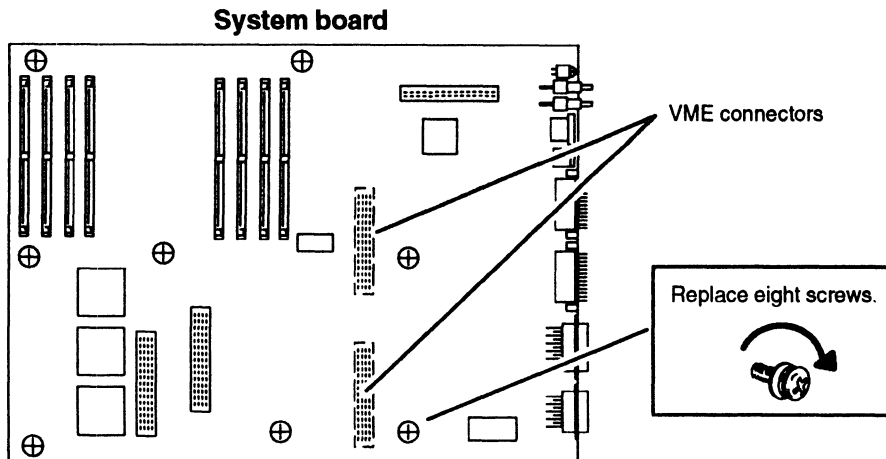

Figure 9-12 Securing the System Board to the Computer Unit
6. Press the system board firmly on each side of the VME connector pins shown in Figure 9-12. Press on one side of the top pins and then on the other side of the top pins, and continue to work your way down the connectors pressing on one side of the pins and then the other. Since the pins are surrounded by components, you will have to press on the components.
7. Using the medium Phillips screwdriver, secure the system board to the computer unit with the eight screws and washers shown in Figure 9-12.